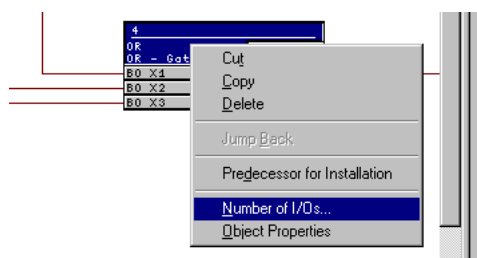

Figure 5-37 Example of an OR Lattice: Module Menu
The default run-time sequence is determined by the sequence of the insertion of the logic modules. You may redefine the run-time sequence by pressing Ctrl – F11 on the PC keyboard. Please refer to the CFC manual. The necessary function modules (FM) are contained in a library located to the right of the configuration chart. The module also indicates to which of the four task levels (MW_BEARB, PLC1_BEARB, PLC_BEARB, SFS_BEARB) it is assigned. The modules possess at least one input and one output. In addition to these inputs and outputs, which are displayed on the configuration sheet, a module may have additional inputs. The additional inputs can be made visible by selecting the module title block, pressing the *right* mouse button, selecting the menu option **Number Of I/Os...** (see Figure 5-37), and then increasing the number.